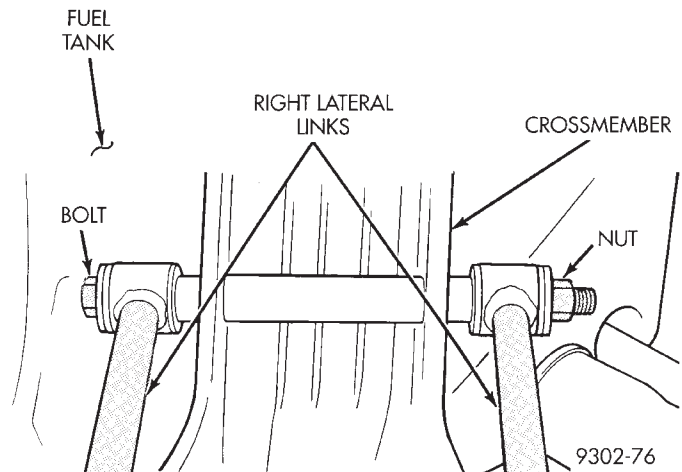

Fig. 7 Right Lateral Links To Crossmember Bolt
(7) Remove the nut and bolt attaching the right lateral links to the rear crossmember (Fig. 7). Remove lateral links from vehicle.